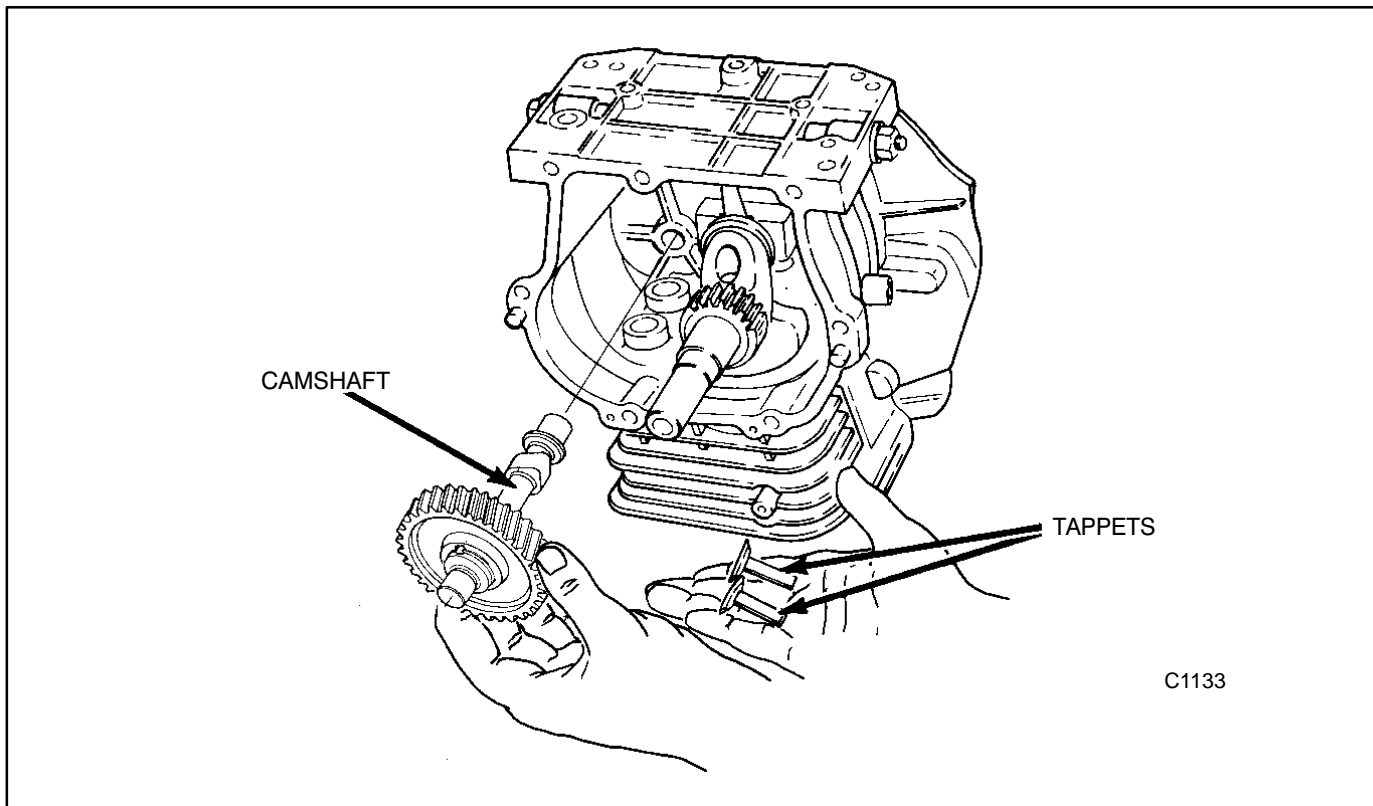

FIGURE 9-6. CAMSHAFT AND TAPPET REMOVAL
2. Pull out the camshaft and cam gear as an assembly (Figure 9-6).